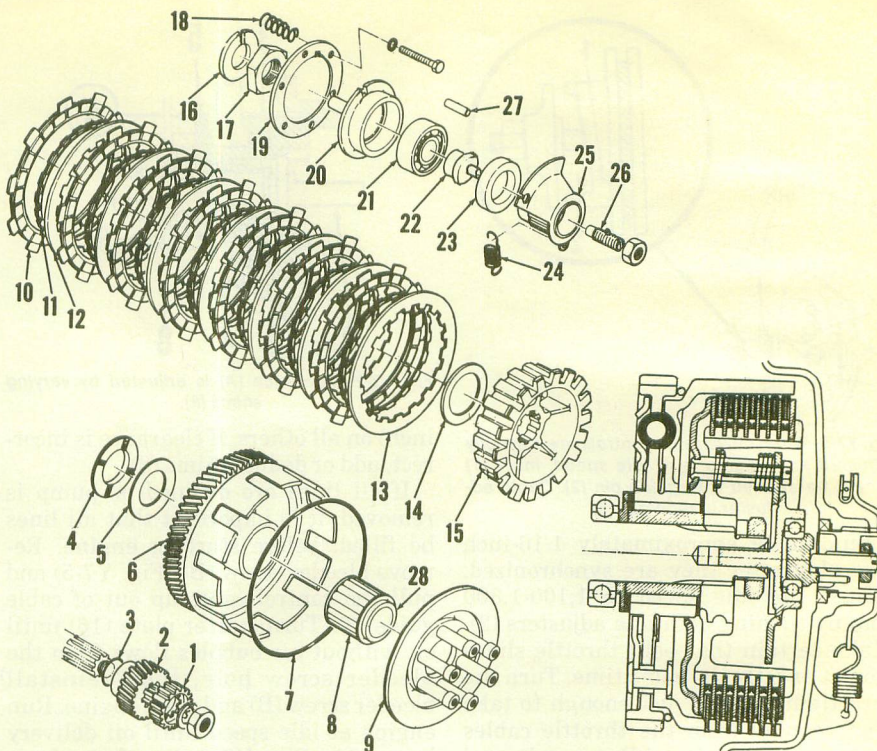

Fig. Y7-16—Exploded view of the clutch assembly. Inset shows cross section of clutch.
Clutch friction discs (10—Fig. Y7-16) should be renewed if less than 2.7MM (0.106 in.) thick. Thickness when new is 3MM (0.118 in.). Free length of clutch springs (18) should be 44MM (1.73 in.). Springs should be renewed if less than 42MM (1.65 in.). Inspect all parts for wear, warp or evidence of overheating. Some 1970 model year DS6-C units were produced with 40MM clutch springs rather than 44MM springs that are on all other models. These springs can be replaced with the normal 44MM version.